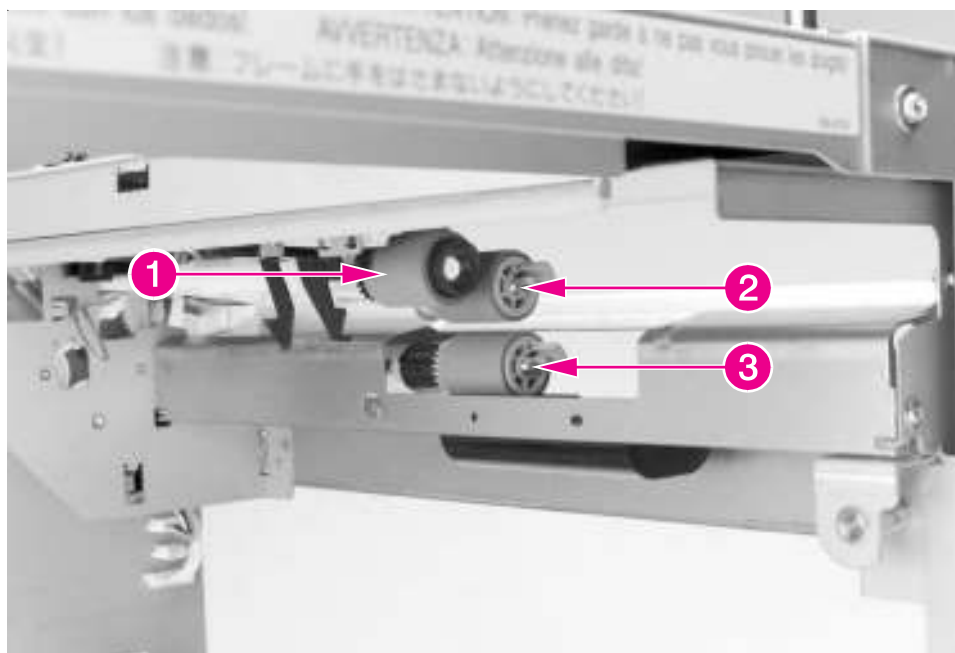

Figure 6-73 2000-sheet Input Tray Rollers: Pickup, Feed, and Separation
- The Pickup Roller is the upper-forward roller (Figure 6-73, callout 1).